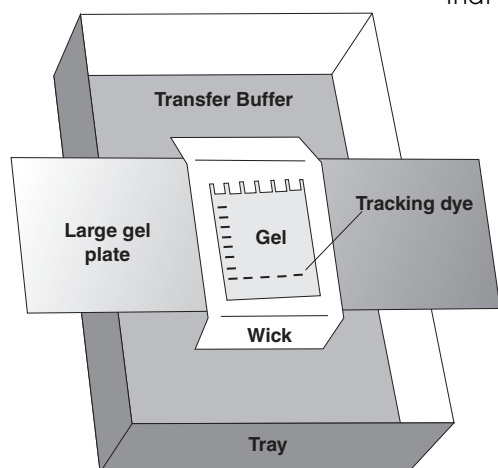

Figure 1:
5. Place larger gel plate on top of a container of dimensions of approximately 16 cm x 9 cm x 4 cm (L x W x D). Add transfer buffer to the tray and place presoaked wick onto gel plate such that ends are submerged in 2 cm of transfer buffer (see Figure 1).